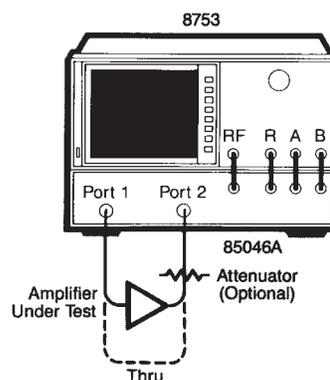
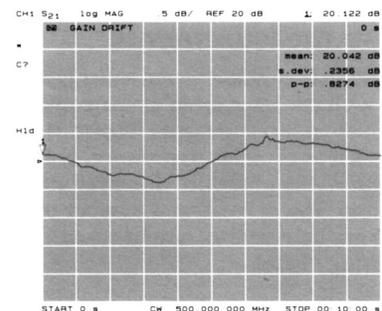

Figure 3. Basic setup for amplifier measurements using the 8753 with an S-parameter test set.
Figure 6. Gain versus time measurement
The following linear measurements can be made with a single connection to the S-parameter test set. (See Figure 3.) A full two-port calibration yields the most accurate results. Before calibration, set the measurement parameters to their desired values. It may be appropriate to step through some of the measurements before performing the calibration to ensure proper stimulus settings. Power levels at the various ports are of primary concern when measuring the linear transmission and reflection characteristics of amplifiers. If external attenuation is needed, calibrate with the attenuator in the system to remove its effects.
Transmission measurements can be made using the basic setup shown in Figure 3. An external attenuator at the amplifier output may be necessary to keep the power level at the B receiver input below the maximum level (0 dBm) for gain measurements. The test set attenuator, accessed through the 8753, affects only the source power path.
1. Connect the system as shown in Figure 3. Preset the 8753 to return the instrument to a known state of operation.
Gain variation in time, with all other parameters held constant, is sometimes referred to as gain drift. The 8753 allows fixed frequency measurements to be made over 100 ms to 24 hour time intervals. This measurement uses the standard setup of Figure 3. An example plot of an amplifier's gain drift over a 10 minute interval is shown in Figure 6.
1. Connect the instrument as shown in Figure 3.
Transmission phase measurements are made with the same setup as magnitude transmission measurements (Figure 3). For cases such as complex impedance, both magnitude and phase are displayed simultaneously. Power levels and number of points are both considerations when measuring phase.